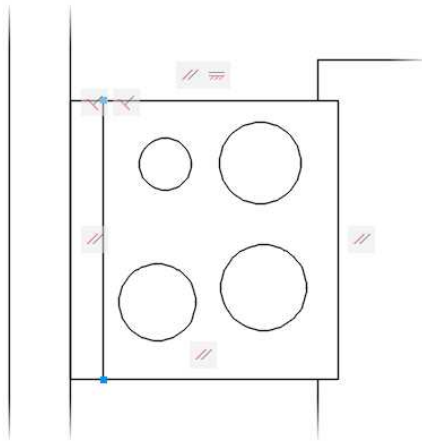

FIGURE 5.48: Rough schematic representation of the stove
4. The command prompt changes from `Specify center point for circle or:` to `Base point:.` Draw four circles as shown in Figure 5.48.